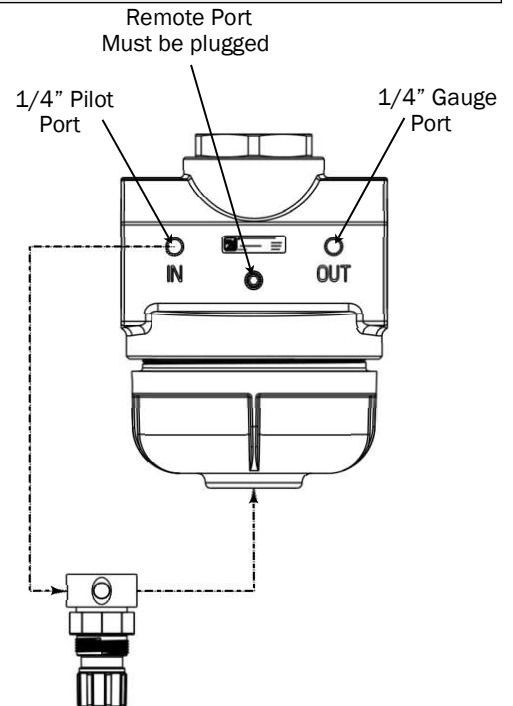

FIGURE 1.
7. The PR300 Regulator comes with remote ports plugged on front and back of head. These ports **MUST** be plugged, do not remove. See Figure 1.
9. The Control Regulator can be installed at a distance from the PR300 Regulator for easier adjustment. The PR300 Regulator has two pilot ports on front and back of inlet side of head. Connect inlet of Control Regulator to one of the pilot ports, and install pipe plug into the other. Connect outlet port of Control Regulator to port on bottom of PR300 Dome. See Figure 1.